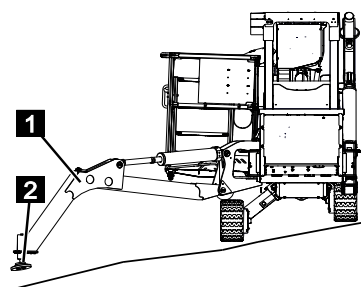

Fig. 105
2. Move the outriggers (Fig.105/1) on the down slope side into the wide or narrow bracing position (Chapter 7.11 „Adjusting and operating the outriggers for bracing“, on page 111) and lower them.
3. Make sure that the bracing pads (Fig.105/2) remain just above the ground if possible.